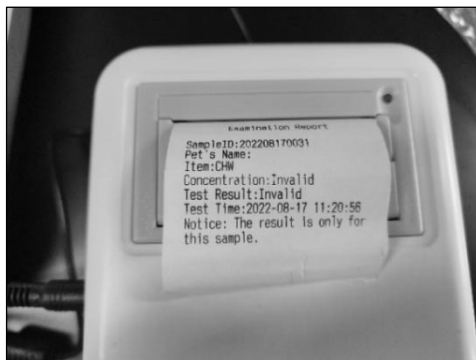

Fig 33
Step 4: After the test is completed, the analyzer will automatically print the results. If "**Auto Print**" is not turned on, manually tap "**Print**" to print the test results. (Ref Fig 33)